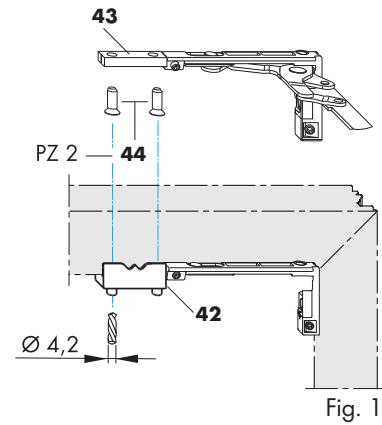

Fig. 1
1. Insert the BS axxent 130 jig kg (42) on loosened stay, as shown in the adjacent diagram (fig. 1).
2. Drill holes $\varnothing 4.2$ for mounting bracket BSO A0040 (43).
3. Insert the BSO A0040 supporting piece (43) into the frame groove, position it on the stay and fix it in place with M5 x 13 countersunk screws (44).
4. Tighten the M5x13 countersunk screws (44) with a torque of 2.5 ± 0.25 Nm.